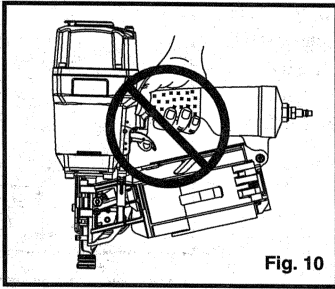

Fig. 10
17. REMOVE FINGER FROM TRIGGER when not driving fasteners. Never carry tool with finger on trigger: tool will fire a fastener if safety is bumped while trigger is depressed. Fig. 10.